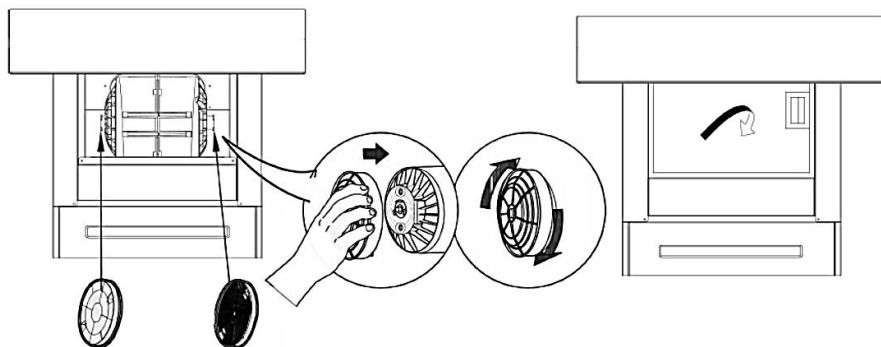

Fig. 20
- Place the carbon filter into the unit and turn it in the clockwise direction to lock it in place. (see Fig. 20)